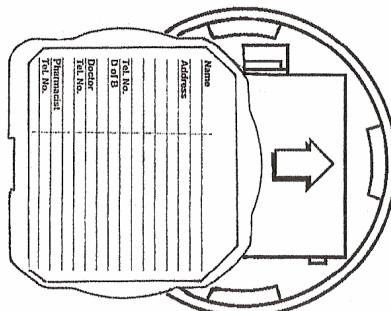

Figure 5
4. Complete the medication booklet, place inside the case, slide the case under the dispenser as shown and clip into position. (figure 5)